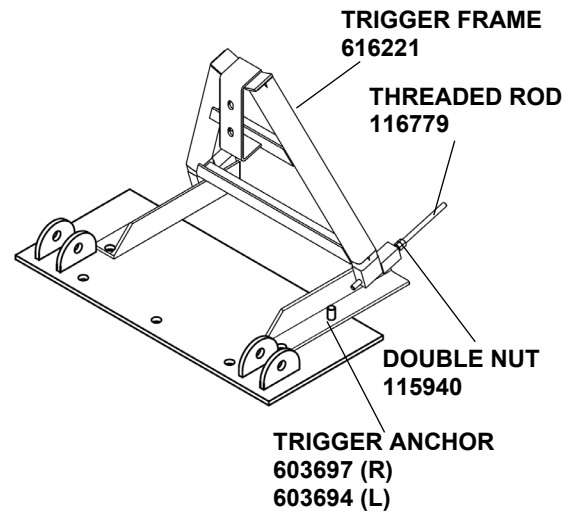

Figure 16
- b. Slide the rods through the Trigger Anchor and Trigger Frame (Figure 16).